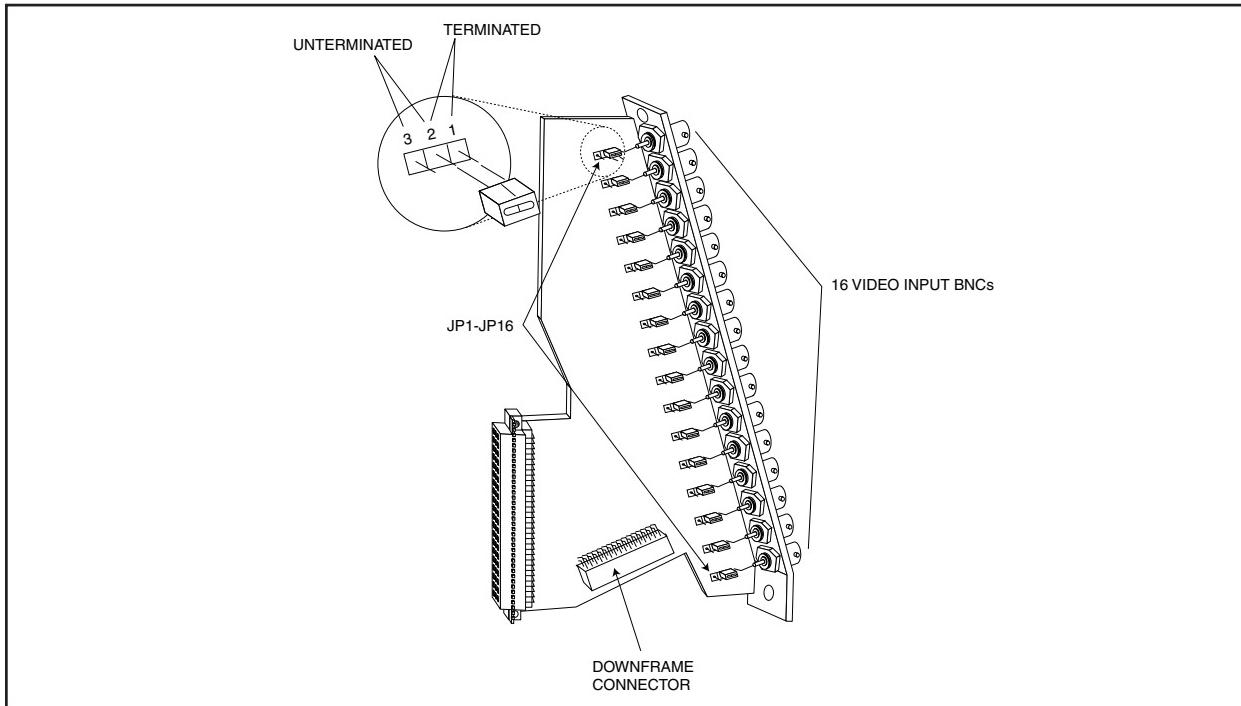

Figure 16. CM9760-RPC Rear Panel BNC Input Card
The Rear Panel Input BNC Card is illustrated in Figure 16.
3. All 16 Input Video Signals are also made available at the 16-pin connector canted at an angle and located toward the bottom of the board (refer to Figure 16).
4. Video Input Signals can also be terminated, if applicable, with individual jumpers accessible on the board at each of the 16 video inputs (refer to Figure 16).
The DFL card is essentially an RPC card with an attached downframing cable. The card itself looks like the one pictured in Figure 16.